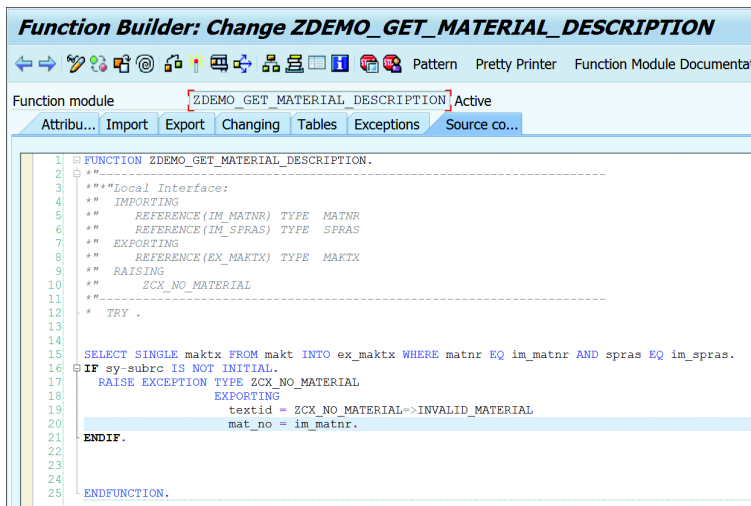

Figure 9.23 Passing Message in Exception
5. To raise the exception and pass the message with the material number, you can enhance the RAISE EXCEPTION statement used earlier, as shown in Figure 9.23. Here, you call the constructor and pass TEXTID by accessing the INVALID_MATERIAL constant defined under the attributes of the class. This constant refers to the corresponding EXCEPTION ID. You also pass the material number to the mat_no attribute so that the &mat_no& field in the text will be replaced with the value.